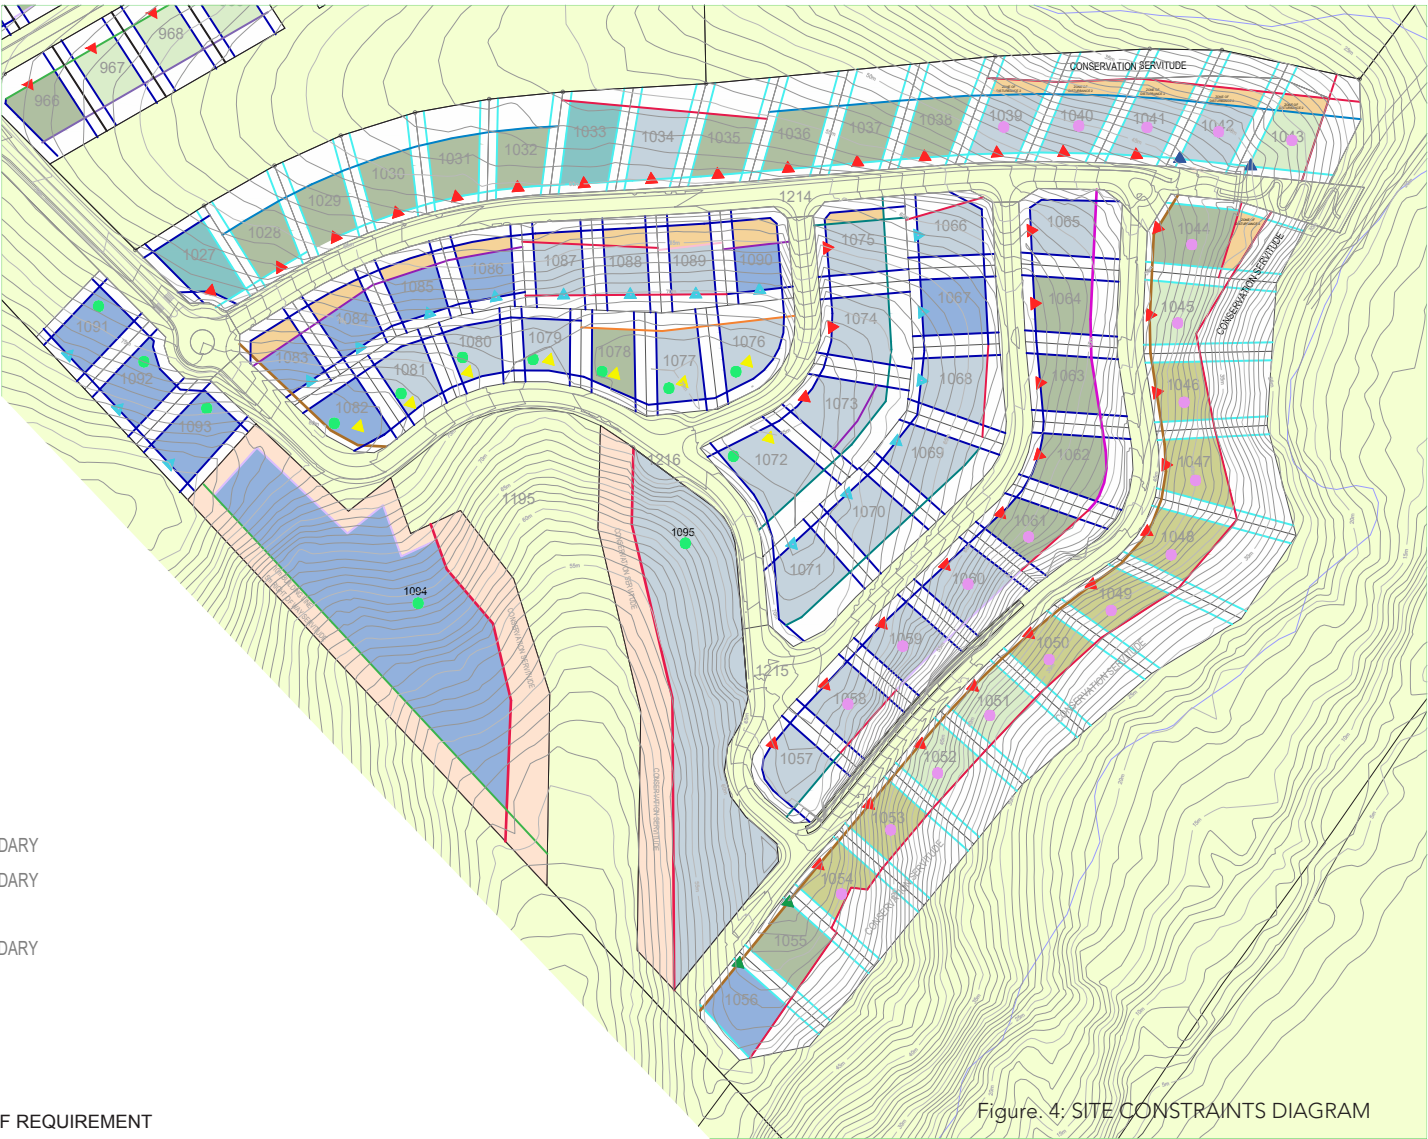

Figure 4: SITE CONSTRAINTS DIAGRAM
- The maximum building height is generally 4.5 metres above the relevant primary site datum indicated in the Site Constraints Diagram. (Figure 4), and shall not exceed 9 metres above relative natural ground level unless otherwise specified in Figure 4.
- a. Zones of disturbance are illustrated within the Site Constraints Diagram (Figure 4).
- a. Building lines are illustrated within the Site Constraints Diagram (Figure 4).